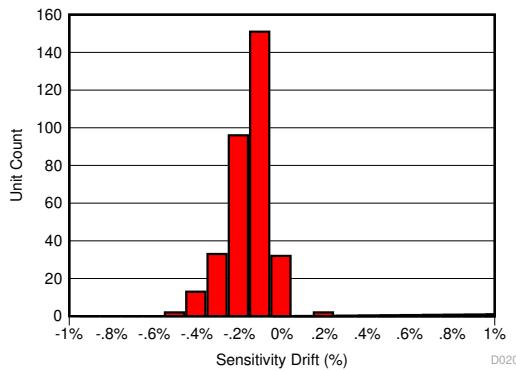
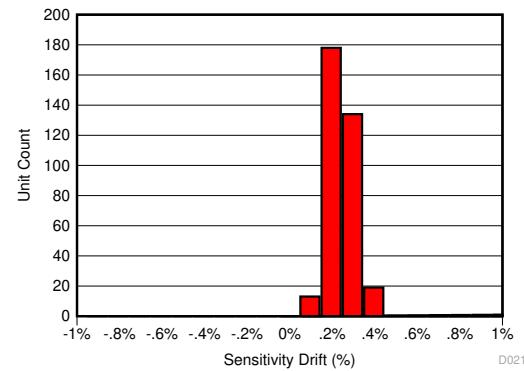

图 9-1. Sensitivity Error After 130°C, 85% RH HAST
图 9-2. Sensitivity Error Drift After AEC-Q100 High Temperature Operating Life Stress Test
The same compensation techniques utilized in the TMCS1107-Q1 to reduce temperature drift also greatly reduce lifetime drift due to aging, stress, and environmental conditions. Typical magnetic sensors suffer from up to 2% to 3% of sensitivity drift due to aging at high operating temperatures. The TMCS1107-Q1 has greatly improved lifetime drift, as defined in the Electrical Characteristics table for total sensitivity error measured after the worst-case stress test during a three lot AEC-Q100 qualification. All other stress tests prescribed by an AEC-Q100 qualification caused lower than the specified sensitivity error, and were within the bounds specified within the Electrical Characteristics table. 图 9-1 shows the total sensitivity error after the worst case stress test, a Highly Accelerated Stress Test (HAST) at 130°C and 85% relative humidity (RH), while 图 9-2 and 图 9-3 show the sensitivity and offset error drift after a 1000 hour, 125°C high temperature operating life stress test as specified by AEC-Q100. This test mimics typical device lifetime operation, and shows the likely device performance variation due to aging is vastly improved compared to typical magnetic sensors.